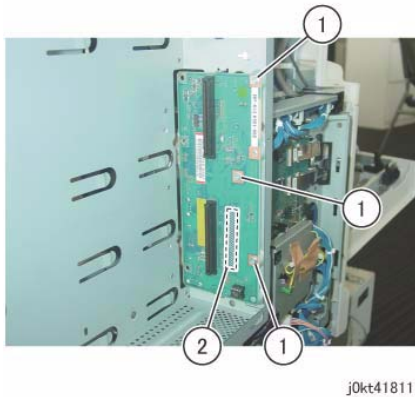

Figure 7 Remove the BP PWB
11. Remove the BP PWB. (Figure 7)